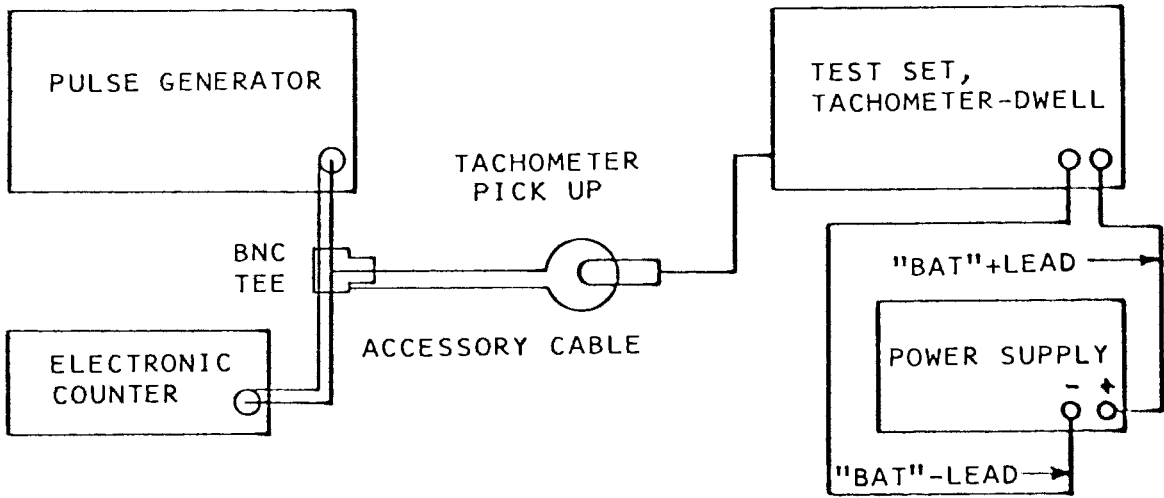

FIGURE. 6-3
- 1) Connect equipment per figure 6-3. Set unit under test to 1000 RPM.